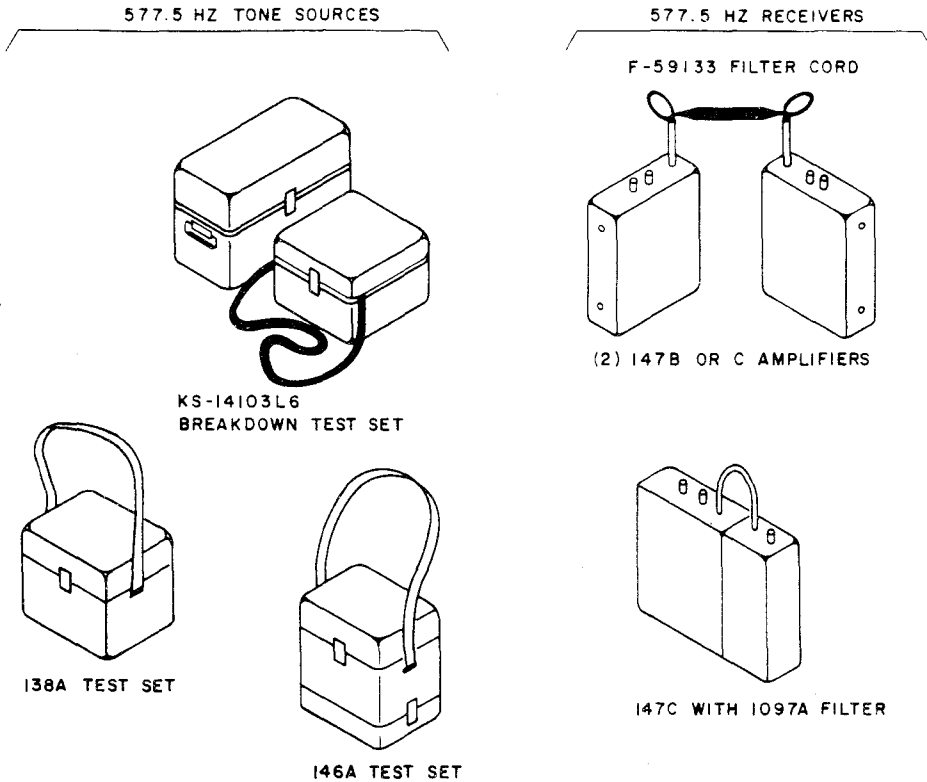

Fig. 3—The Precision Tone Family
4.01 Figure 3 illustrates those pieces of equipment that are capable of producing and receiving the precision tone.